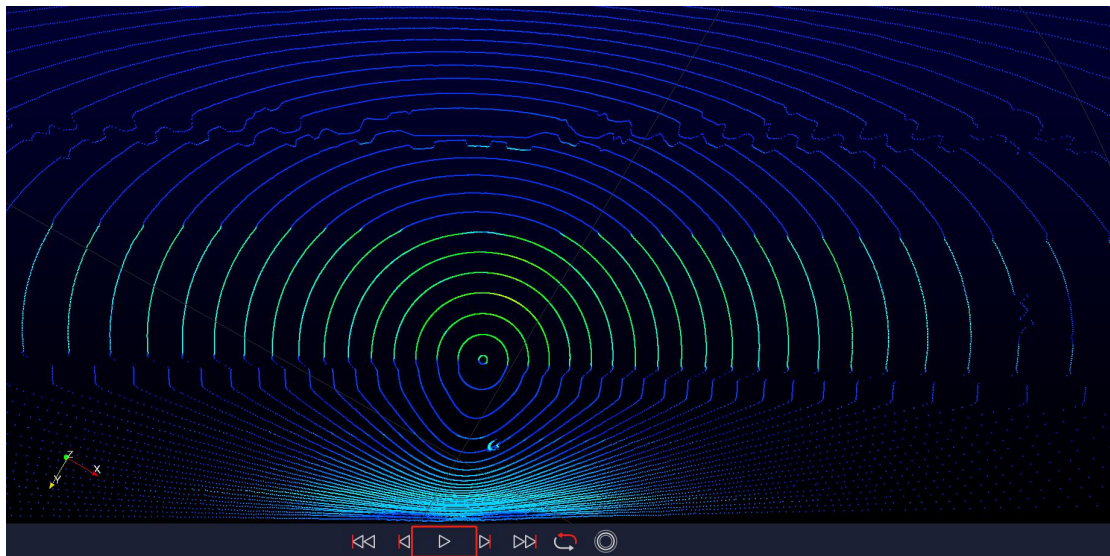

Figure C-4 Sensor Stream Data Display in RSView
6. RSView begins displaying the sensor data stream (Figure C-4). The stream can be paused by pressing the **Play** button, pressing again, the stream resumes.